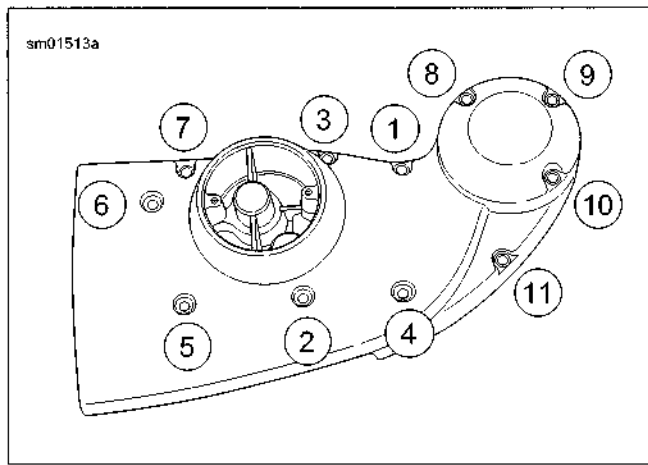

Figure 3-127. Gearcase Cover Mounting Screw Torque Sequence
13. See Figure 3-127. Install gearcase cover. Tighten in sequence to 90-120 in-lbs (10.2-13.6 Nm).